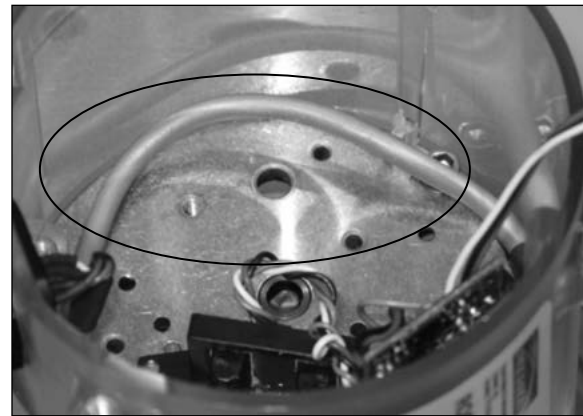

Figure 13.2 -Gray wire against wall of the cover
4. Ensure the gray wire is against the wall of the cover as shown in Figure 13.2.